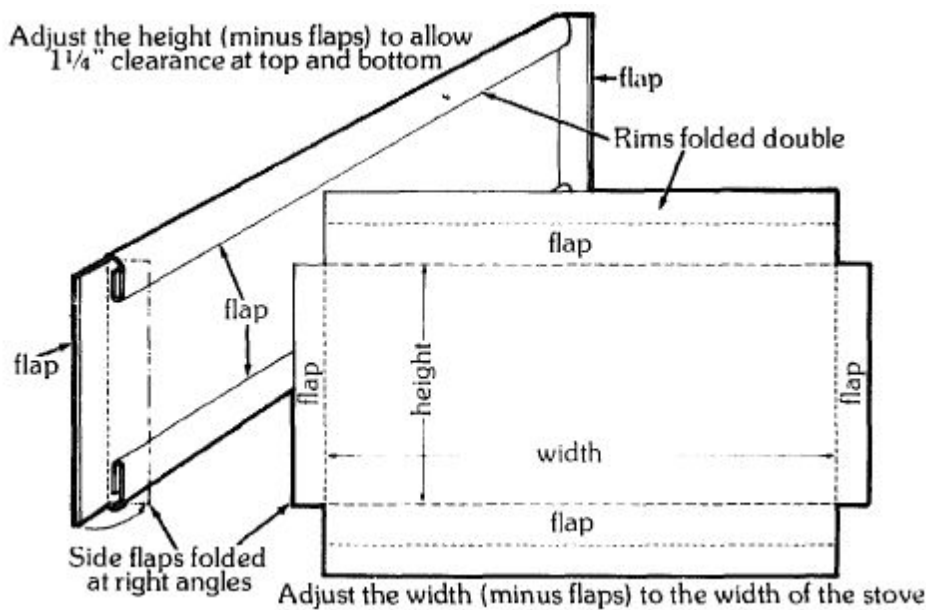

Figure 13.18 - Baffle pattern.
10. Make and install the baffle. Measure the width and depth of your stove at a point 12-1/2 inches from the end opposite the stovepipe port. Cut a piece of metal 12 by 18 inches and fold it, as shown in Figure 13.18. Install in the position indicated in Figure